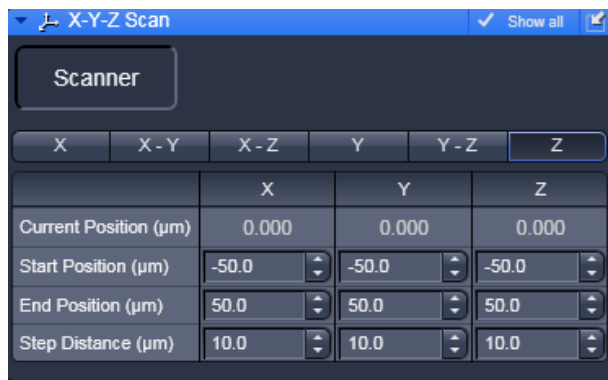

Fig. 9-71 X-Y-Z Scan tool
- Click on the X-Y-Z Scan tab to open the X-Y-Z Scan tool (Fig. 9-71). Click the tab again to close the tool.